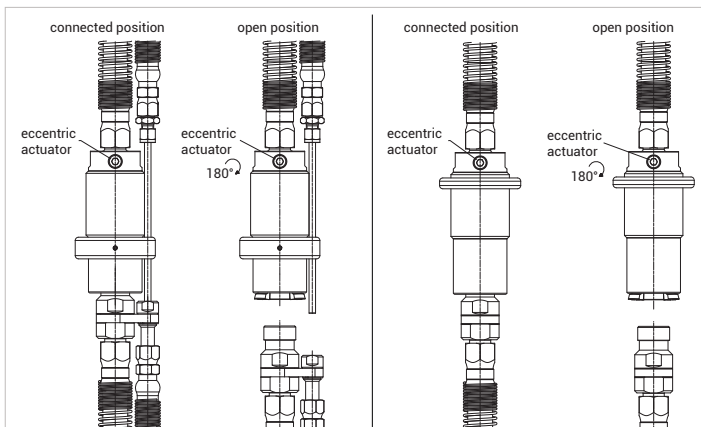

Figure 11
- ▶ Turn the eccentric actuator (Pos. 2) by 180° using an Allen key A/F6 (*Figure 11*)